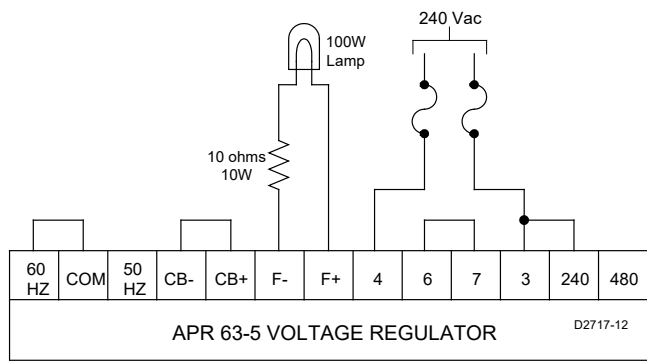

Figure 7. Operational Test Connections
1. Connect the APR 63-5 and apply 240 Vac as shown in Figure 7.